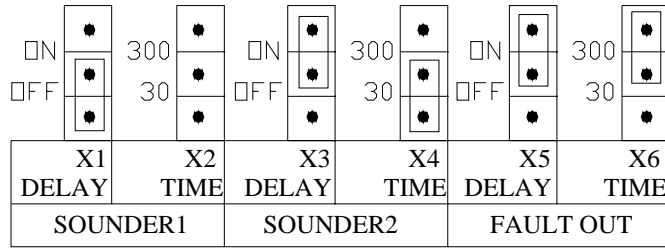

Fig. 5.2
- c Setting pins of delay time are shown in Fig. 5.2.
In Fig. 5.2, Sounder 1 is in direct output state; Sounder 2 is delayed for 30 seconds; Fault output is delayed for 5 minutes.